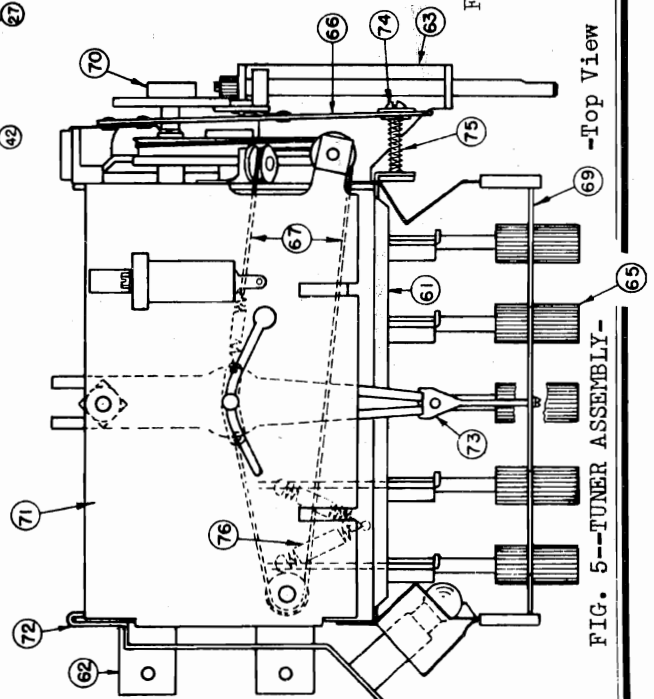

FIG. 5--TUNER ASSEMBLY--
9. Place the long cord behind the pointer and over pulleys (Fig. 5 & 6). Hook the cord eyelet over the drive pulley hook nearest the back of the tuner and push the cord into position around the pulley rim.